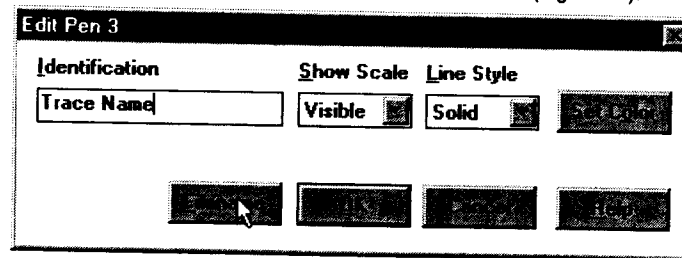

Figure 24 Edit Pen Dialog Box
To add another trace (point) to the graph, double click the mouse over the graph area (C) or select "Graph - Setup" from the menu. The Edit Graph dialog box will appear. Press the Add button. This will bring up the Edit Pen dialog box shown below (Figure 24).
The Edit Pen dialog box (Figure 24 above) can be used to add a name to the trace with the **Identification** box, simply type in the name you want. Use the **Show Scale** drop down list to select whether the Y Axis scale is visible or not (off). If all traces have the same axis it is not necessary to show them all.